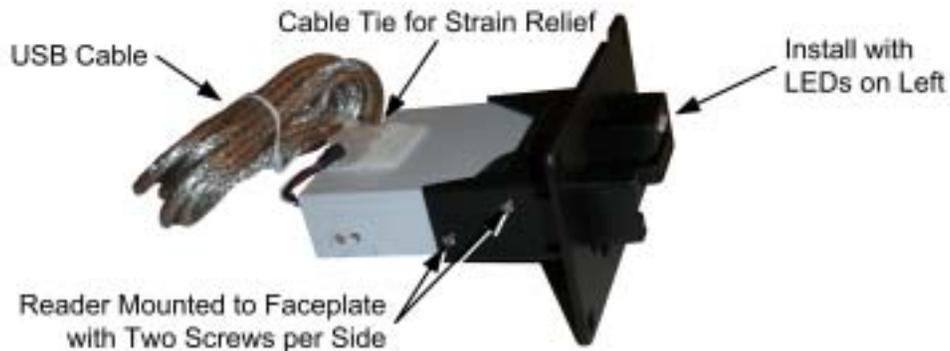
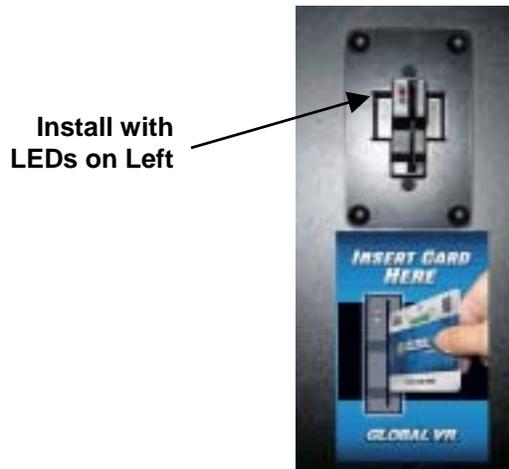

Figure 5. SmartCard Reader Assembly
Figure 6. SmartCard Reader and Artwork Installed
3. Insert the new SmartCard reader in the card reader location and secure it with the four (4) keps nuts. Make sure the LEDs are on the **left** (see Figure 5 and Figure 6).